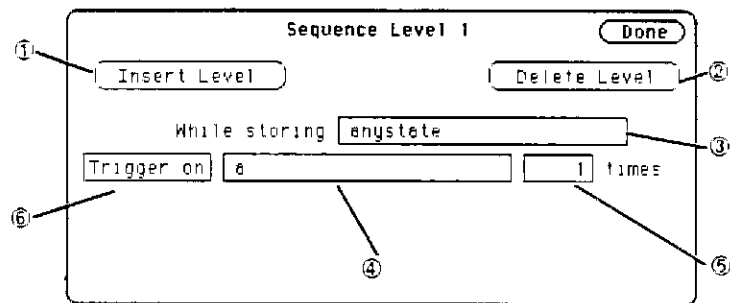

Figure 5-76 Sequence Level Pop-up Menu
Not all sequence level pop-up menus look like this one. This happens to be the trigger sequence level in which you specify the state on which the analyzer is to trigger. The trigger term can occur in any of the first seven levels, and it is not necessarily a selectable field. The fields in the menu of figure 5-76 are described on the following pages.
In the example of figure 5-76, the branching qualifier tells the analyzer when to trigger. In other sequence levels, the qualifier may simply specify a state that the analyzer is to look for before continuing to the next level.
- ⑥ **Storage Macro** Your logic analyzer has the capability of post-trigger storage through a storage macro. The storage macro is available only in the second to last level, and it consumes both that level and the last level. The field in figure 5-76 allows you to configure the state analyzer for post-trigger storage. This field does not always say **Trigger on**. If the sequence level is not a trigger level, the field will say **Then find**, as shown below.